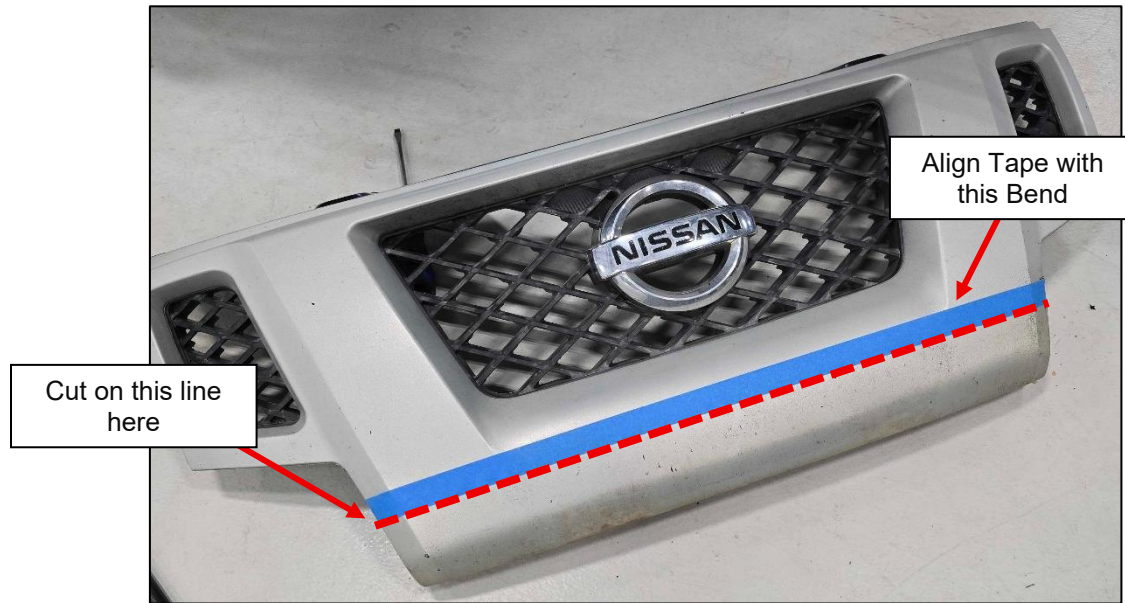

Figure 21
27. If you have a 2009+ Xterra, the Front Grille will need to be trimmed to clear the new Bumper. Use 1" Painters Tape and follow the bend line across the front of the Grille. Cut below the tape with an Air Saw or equivalent tool and clean up any edges with a file or Die Grinder. *Figure 21.*